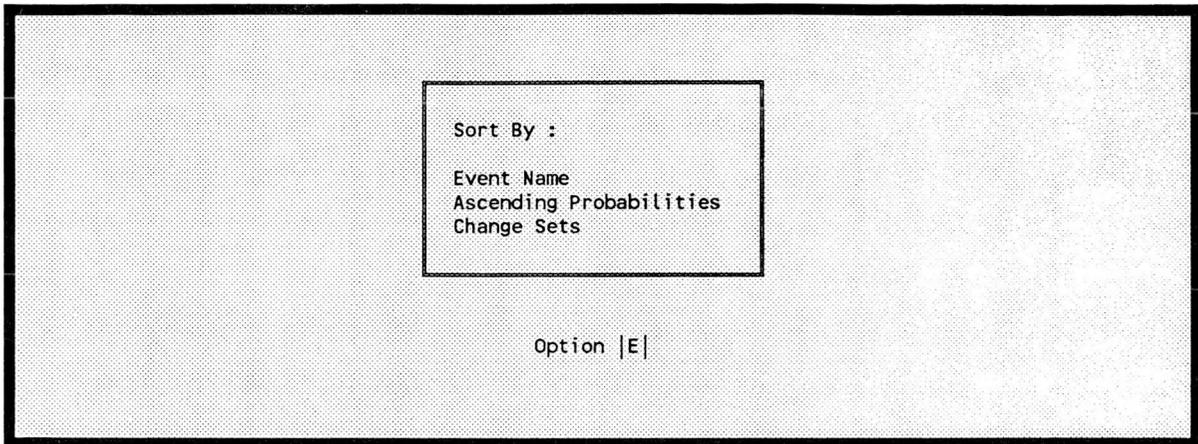

Figure 183. Selecting the sorting order for event reports.
7.2.9.2 Unaffected Events (Base). This option allows you to generate a report of the events that are not affected by any of the change sets that currently exist in the data base. To invoke the option, type  in the command field and press <Enter>. The sort selection menu will be displayed, allowing you to sort the data by event name, ascending probability, or change set (Figure 183).
7.2.9.3 Affected Events (Current). This option allows you to generate a report of the events that are affected by the change sets that currently exist in the data base. To invoke the option, type <F> in the command field and press <Enter>. The sort selection menu will be presented allowing you to sort the data by event name, ascending probability, or change set (Figure 183).
7.2.9.4 All Events (Base, Current). This option allows you to generate a report of all of the events in the data base. The report will indicate which events are affected by a change set. To invoke the option, type <A> in the command field and press <Enter>. The sort selection menu will be presented allowing you to sort the data by event name, ascending probability, or change set (Figure 183).